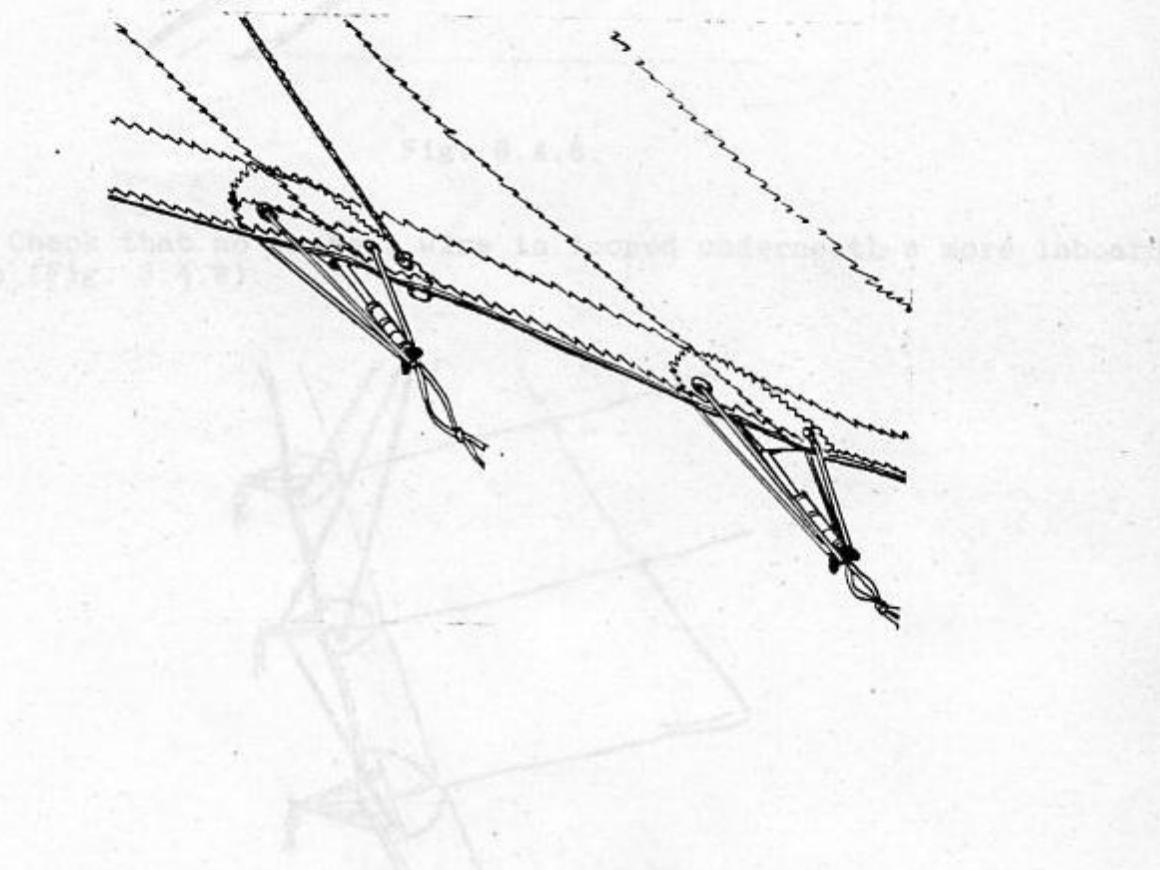

Fig. 3.4.7.
7. Check that the top surface battens are fixed with the batten tension leech line (Fig. 3.4.7).